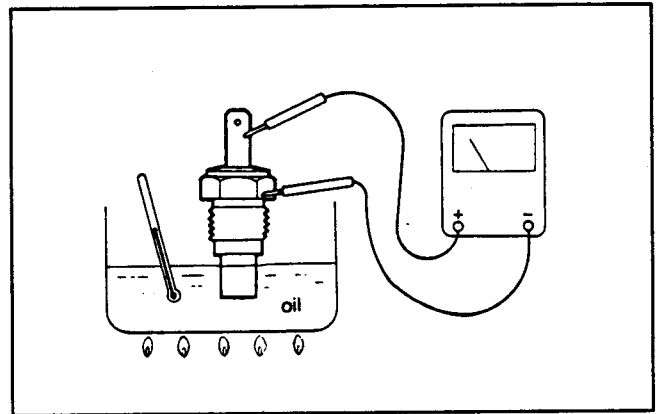

Figure 15
2. Put the switch in a container of oil with a thermometer and heat the oil (Fig. 15).